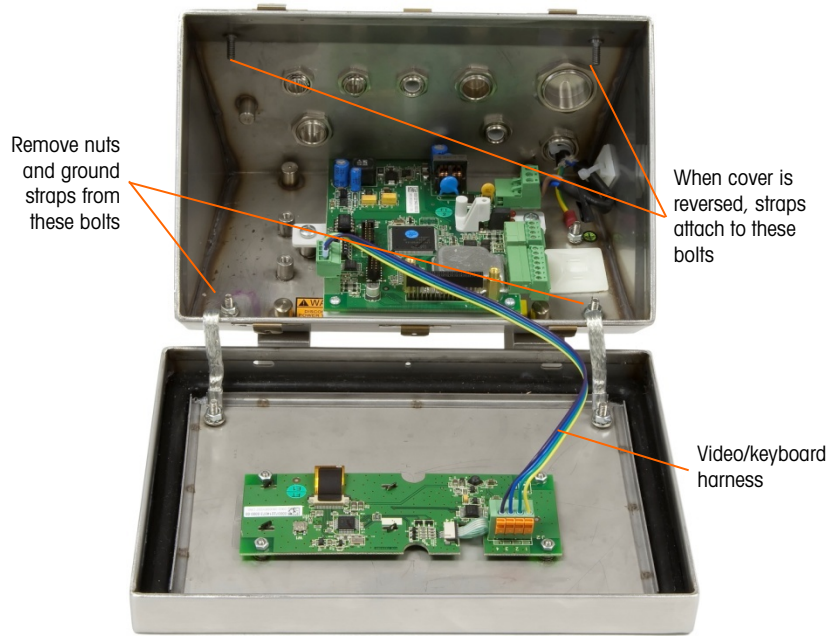

Figure 2-21: Loosening the Ground Straps
To open the harsh enclosure, use a flat blade screwdriver. Push the blade into each of the two slots in the cover (indicated in Figure 2-4) to compress the spring clip until the cover pops up. When both corners are free, press the cover upward until it clears the front edge of the housing. Then, press it backward until it unlatches the two remaining spring clips. Lift it carefully off the enclosure and swing it forward. The cover is attached to the enclosure by two strain relief/grounding cables, and is connected to the main board by the video/keyboard harness (see Figure 2-21).
- B. Loosen and remove the two nuts securing the two grounding straps (that also operate as hinges for the front cover) to the rear housing. See Figure 2-21.